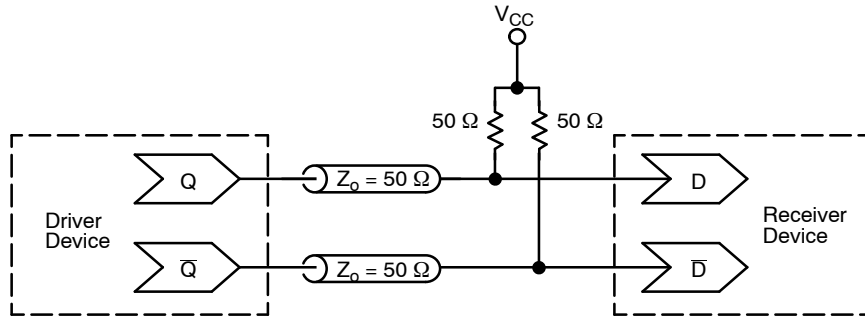

Figure 10. Typical Termination for Output Driver and Device Evaluation
- CML outputs require 50 Ω receiver termination resistors to V_{CC} for proper operation (Figure 10).